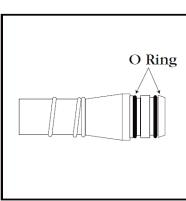

Figure 5
- Solution: Remove spout and clean debris. Always use new o-rings provided by OPW for replacement (see *Figure 5, next page*). Re-test as required.
Check the spout o-rings to make sure they are not cut or missing (see *Figure 5*).